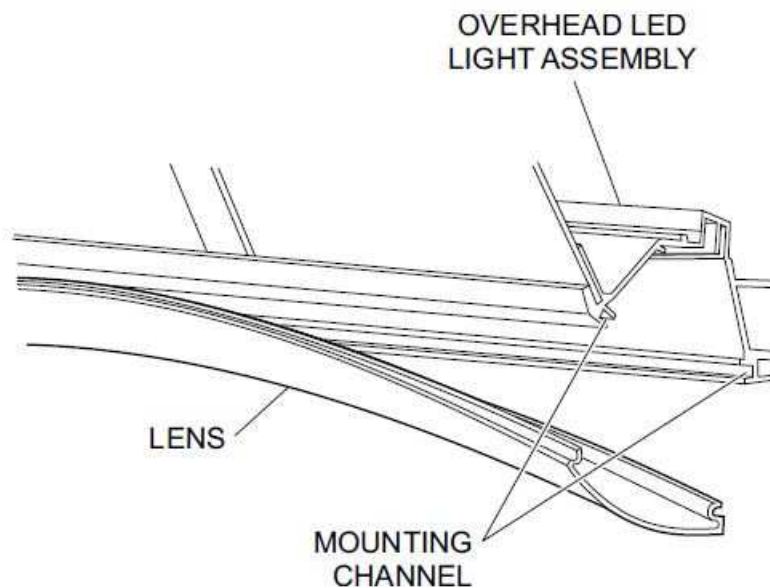

Figure 1: light lens installation
- b. Starting at one end, compress the upper end of the lens to release it from the mounting channel. Figure 1.